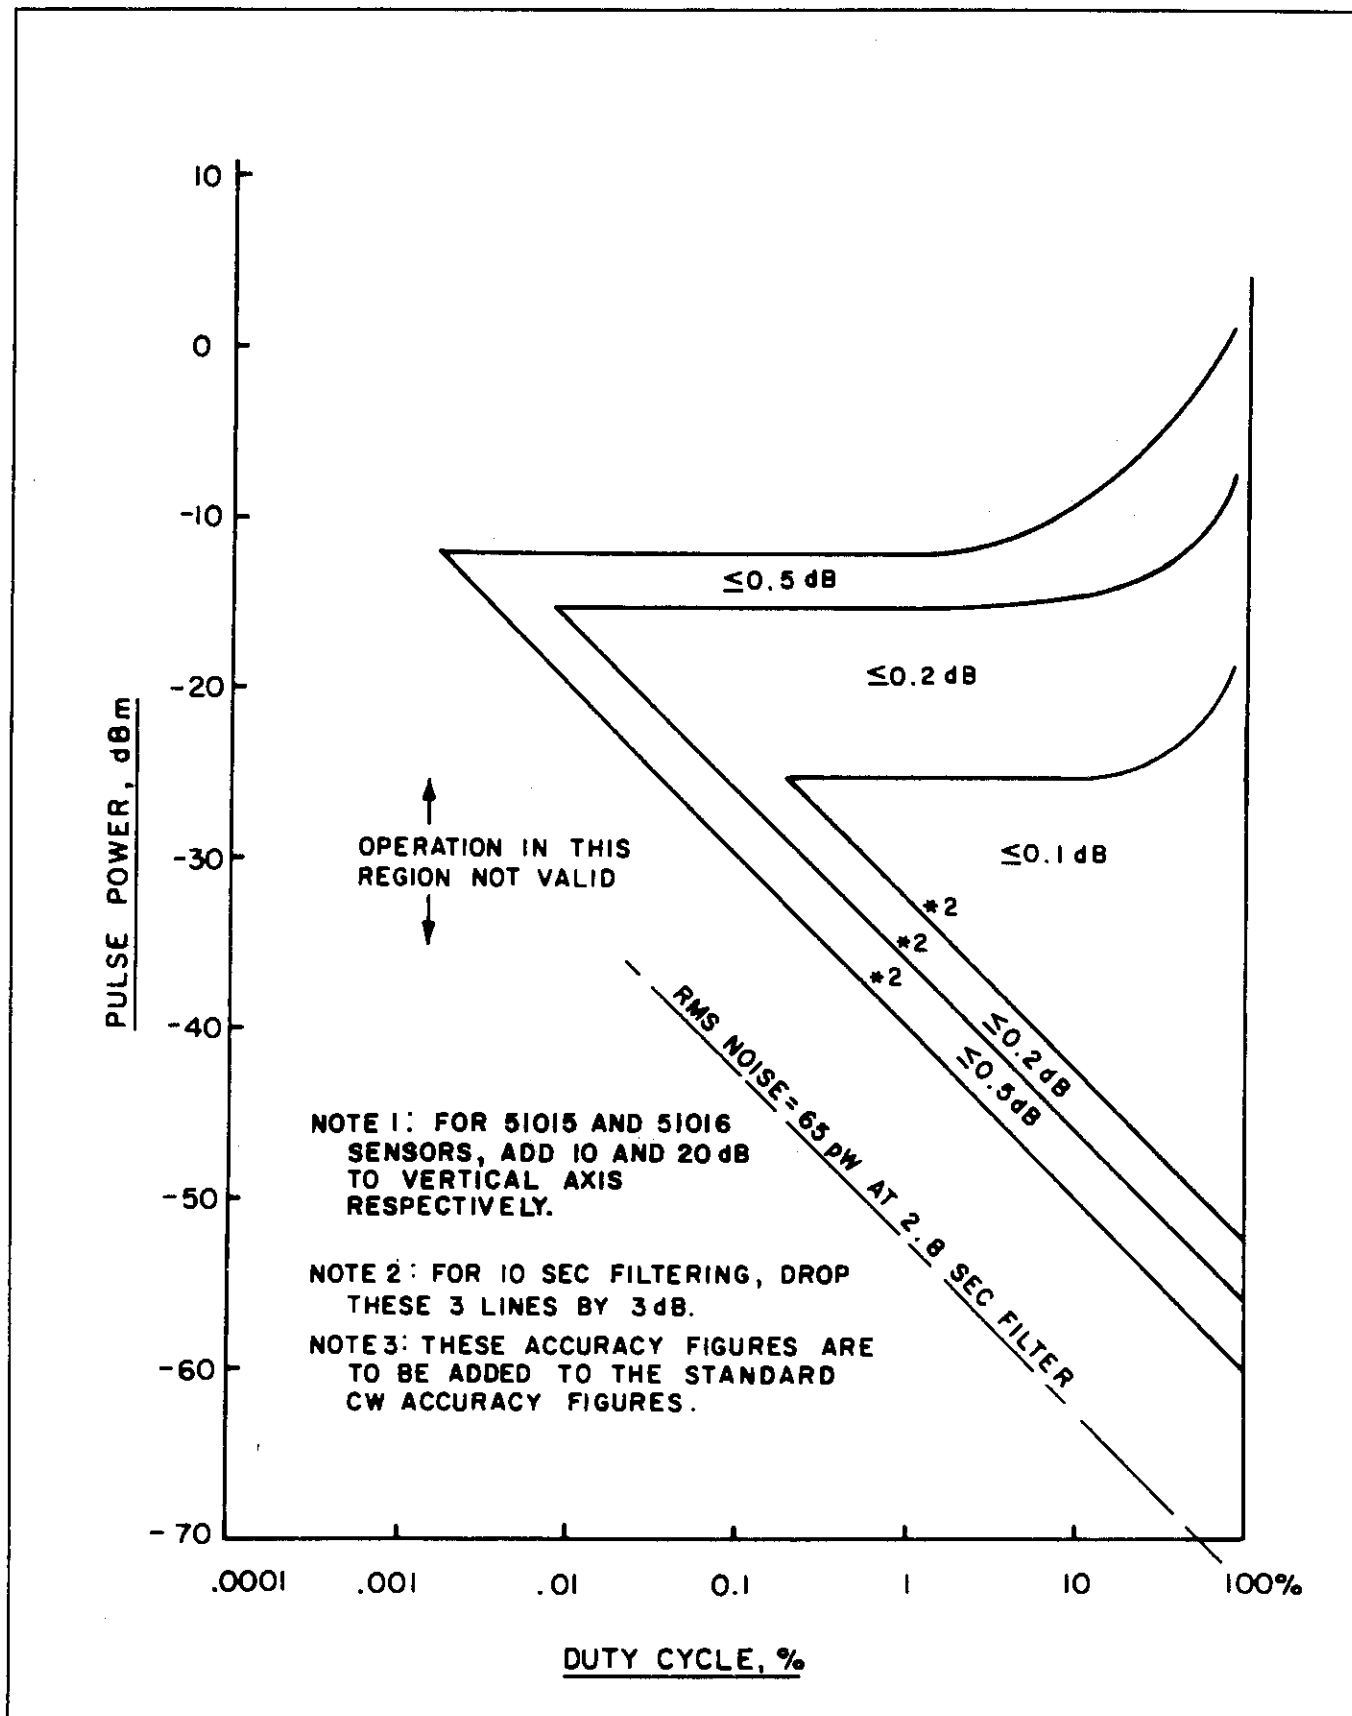

Figure 4-17. Pulsed RF Accuracy for 51013 Diode Sensor
2. **Diode Sensors.** Figure 4-17 shows the valid operating region for the 51013 diode sensor. For the 51015 and 50133 sensors, add 10 and 20 dB to the y axis, respectively. As mentioned previously, the operating region has been extended 10 dB above the normal RMS region of the sensor with internal math and correction curves. As with thermal sensors, the bottom end measurement is limited by noise, getting worse as the duty cycle decreases. At the top end, the limitation is on pulse power because even a very short pulse will charge up the detecting capacitors. The error for various duty cycles and pulse powers is shown. As the duty cycle approaches 100%, the error decreases to zero because the 4300 is shaped for CW (continuous wave) RF. The burnout levels must be observed. The burnout level for diode sensors is the same as for pulsed and CW waveforms.